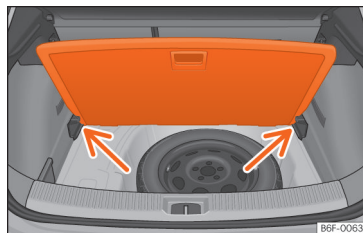

Fig. 146 Variable boot floor: tilted position.
- Rest the floor on its housings »» Fig. 146 (arrows).